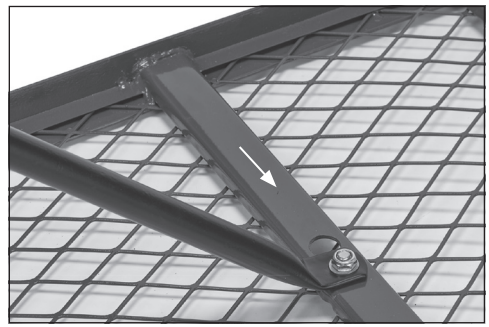

Fig. 10
2. Slide the bolt sideways so that the square neck of the bolt locks into the slot. (Fig. 10).